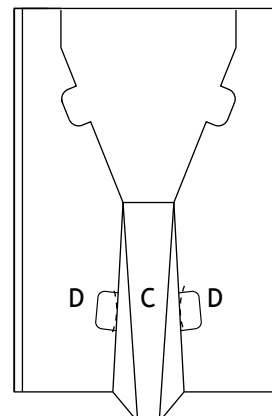

Fig. 3
5. Fold the creases to form the stand section (C) (Fig 3).
6. Fold the stand section down and place the tabs in to the slots provided (D) (Fig. 3).